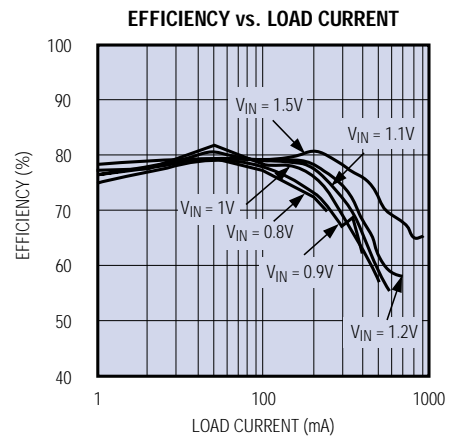

Figure 2. Efficiency for the Figure 1 circuit varies with input voltage and load current.
**Figure 2** shows the overall conversion efficiency for different input voltages versus load current. The circuit delivers 200mA or more for  $V_{IN} = 0.8\text{V}$ , and 450mA or more for  $V_{IN} = 1.5\text{V}$ .